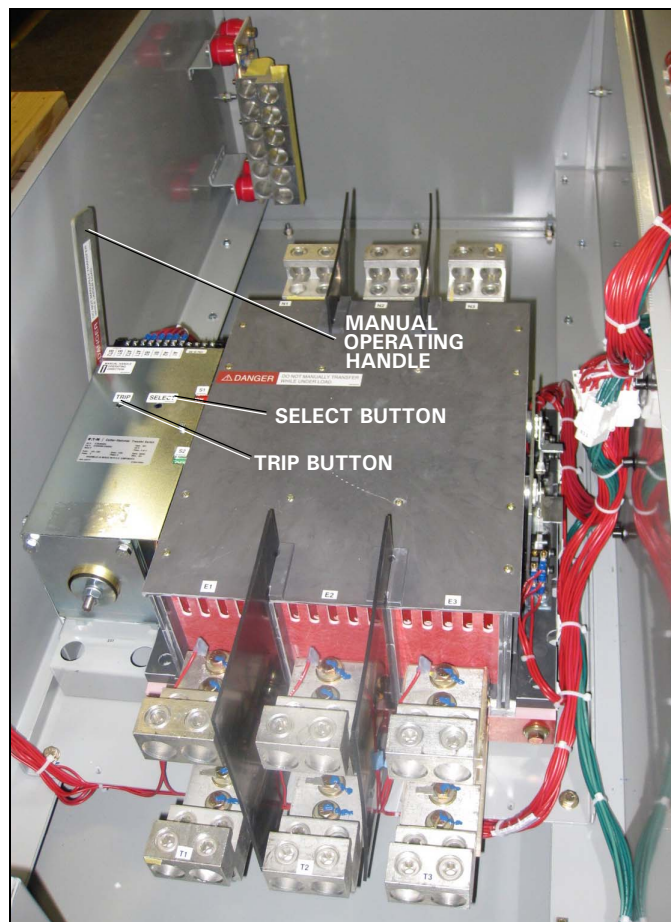

Figure 19. ATS Manual Operating Handle in Use.
6. Attach the handle to the manual lever (see Figure.19).